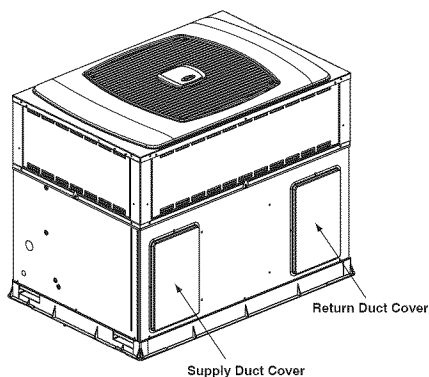

Fig. 8 - 48XT with Duct Covers On
4. Ensure the side duct covers are in place to block off the horizontal air openings (See Fig. 8).
2. Remove flue hood from shipping location (inside the return section of the blower compartment—See Fig. 8). Remove the return duct cover to locate the flue hood. Remove two screws on flue panel. Place flue hood assembly over flue panel. Orient screw holes in flue hood with holes in the flue panel.